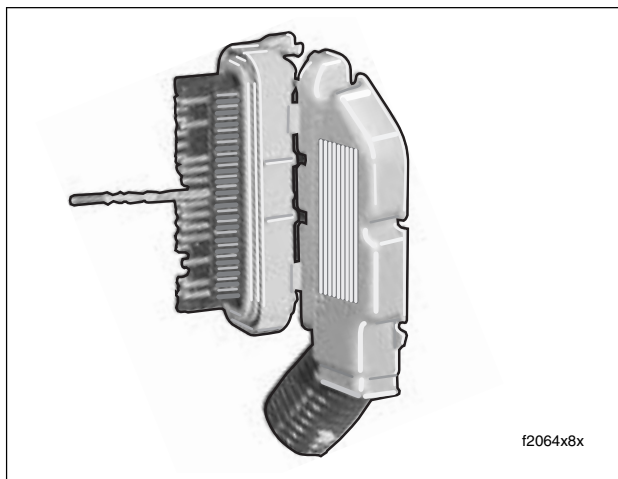

Figure 8-52. Push Wire to Extract Terminal
4. Push on selected wire to free terminal from chamber. See Figure 8-52.
1. From inside socket housing, gently pull on wire to draw terminal into chamber. See Figure 8-52.